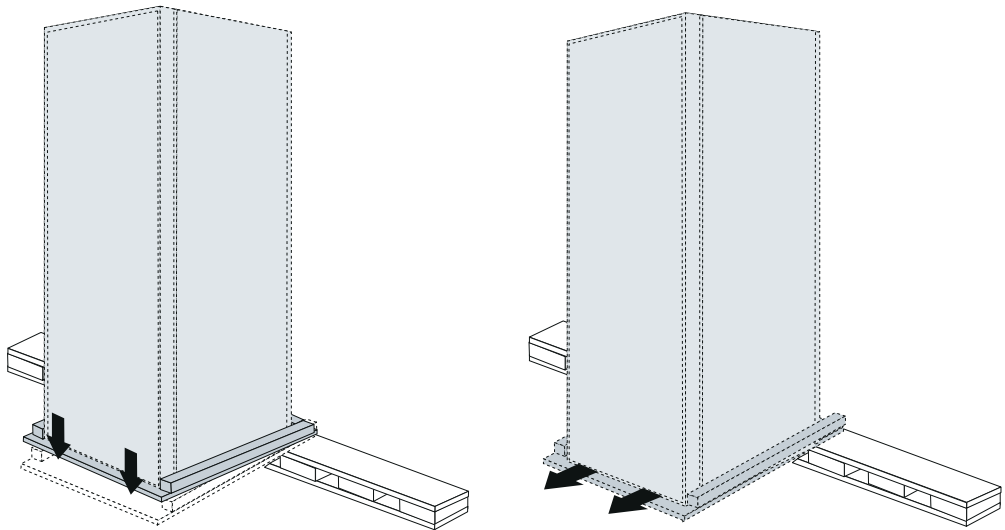

Figure 4. Transforming the pallet into a declining ramp
3. With one person holding the PC Server Rack at the rear (the side where you removed the two bolts) to prevent it from tipping forward suddenly, have the other two people simultaneously pull the pallet supports out, swinging them 90 degrees away from the pallet and transforming the pallet into a declining ramp (Figure 4).